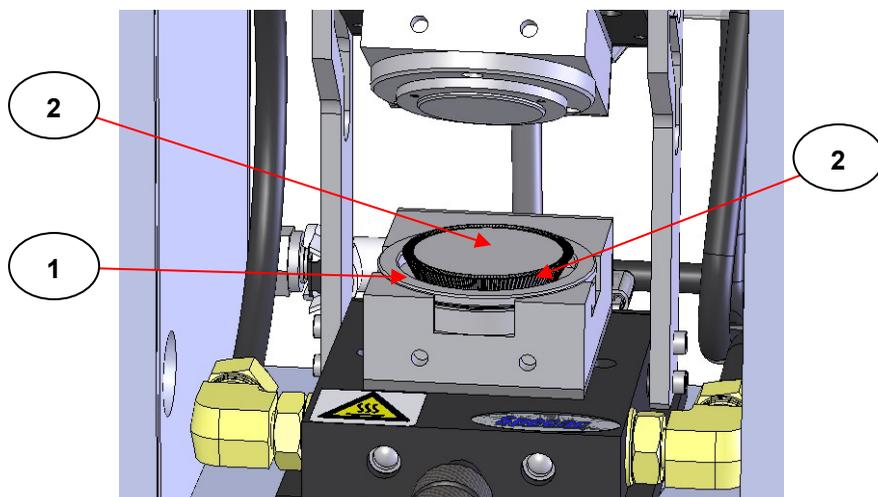

Fig 18. Lower Aluminium Sample Cup, Sample and Cover Positioned in Lower Heated Pressing Surface Assembly
Now, very carefully place a second aluminium foil disc (21) or the sample cup cover (23) over the foil disc or sample cup and sample already placed within the spacer ring (18) on the lower polished pressing surface (14) of the Film Maker Accessory. Try not to disturb any sample placement when introducing the top foil disc (21) or sample cup cover (23) and be sure that the correct shiny surface of the top foil disc (21) is in contact with the sample if fringes are required. (The sample cup cover (23) will have already been prepared accordingly with a matching shiny or matt surface to use against the sample with its appropriate sample cup.) (See Fig 18.)